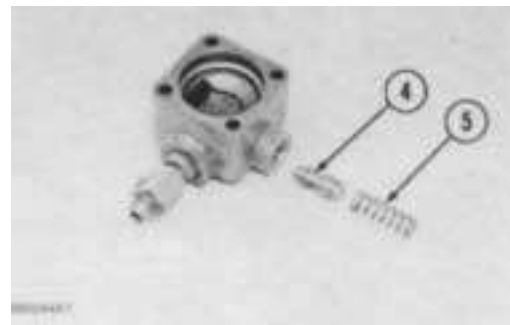

FIGURE 7-10
- Remove the plug, spring (5, Figure 7-10), and valve (4).